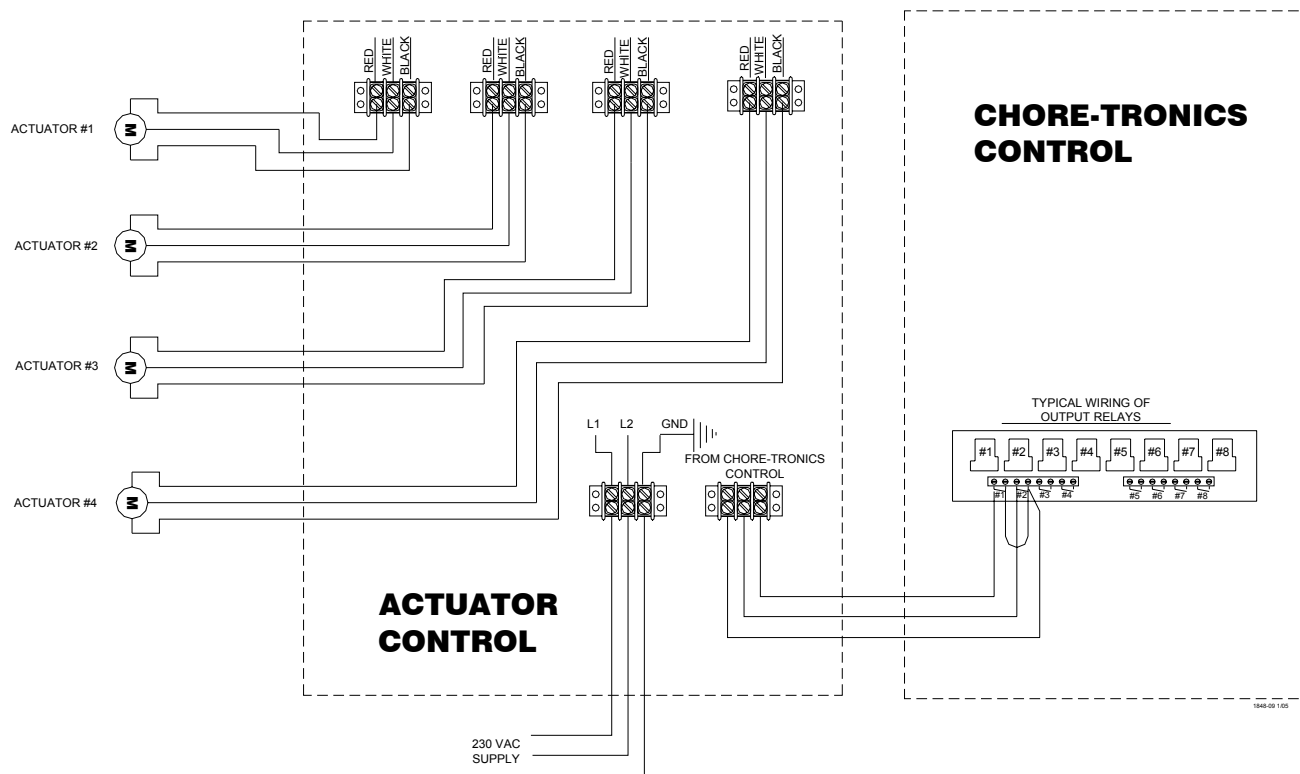

Figure 61. Powered Actuator Wiring
1. Unroll the bulk anti-roost cable. Note: If the cable is unrolled as shown in **Figure 61**, taking 5 loops of the coil with one hand, then changing hands to remove 5 loops as it is unrolled, it will lie flat during installation.